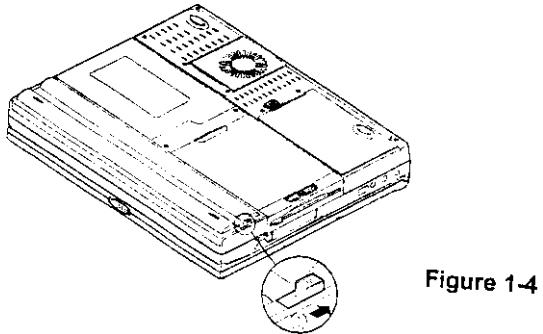

Figure 1-4
2. Press the latch in the indicated direction to release the battery pack (Figure 1-4).